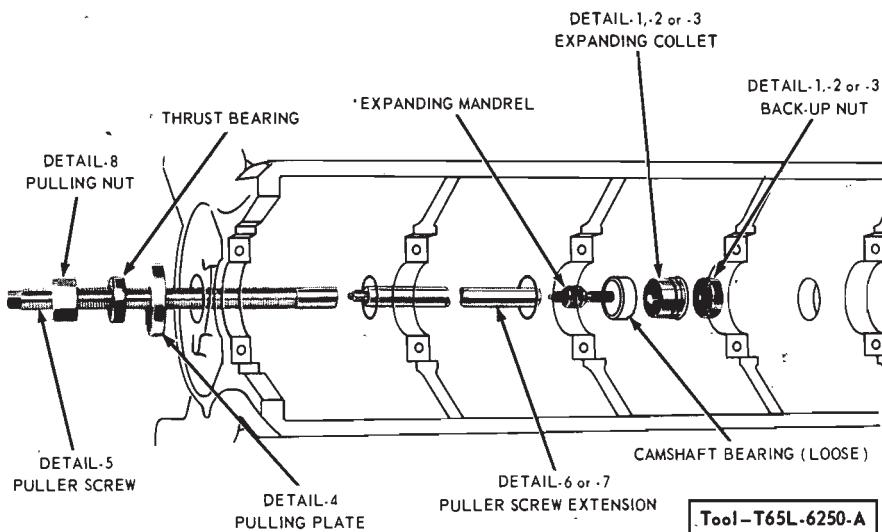
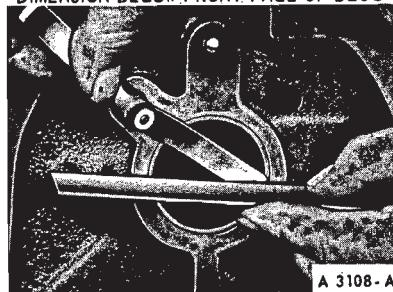

FIG. 51—Camshaft Bearing Replacement
FIG. 52—Camshaft Front Bearing Measurement
2. Remove the camshaft rear bearing bore plug. Remove the camshaft bearings (Fig. 51).
If the camshaft bearings are being removed with the tool shown in Fig. 51, the following procedure will apply. Select the proper size expanding collet and back-up nut and assemble on the expanding mandrel. With the expanding collet collapsed, install the collet assembly in the camshaft bearing, and tighten the back-up nut on the expanding mandrel until the collet fits the camshaft bearing. Assemble the puller screw and exten-
3. Position the new bearing at the bearing bores, and press them in place with the tool shown in Fig. 51. Be sure to center the pulling plate and the puller screw to avoid damage to the bearing. Wrap a cloth around the threads of the puller screw to protect the front bearing or journal. Failure to use the correct expanding collet can cause severe bearing damage. Align the oil holes in the bearings with the oil holes in the cylinder block when the bearings are installed. Be sure the front bearing is installed the specified dimension below the front face of the cylinder block (Fig. 52).
34. Remove the camshaft rear bearing bore plug. Remove the camshaft bearings (Fig. 51).
3. Position the new camshaft bearings at the bearing bores and press them in place with the tool shown in Fig. 51. Align the oil holes in the cylinder block when the bearings are installed. Be sure the camshaft front bearing is installed to the specified dimension below the front face of the cylinder block (Fig. 52).